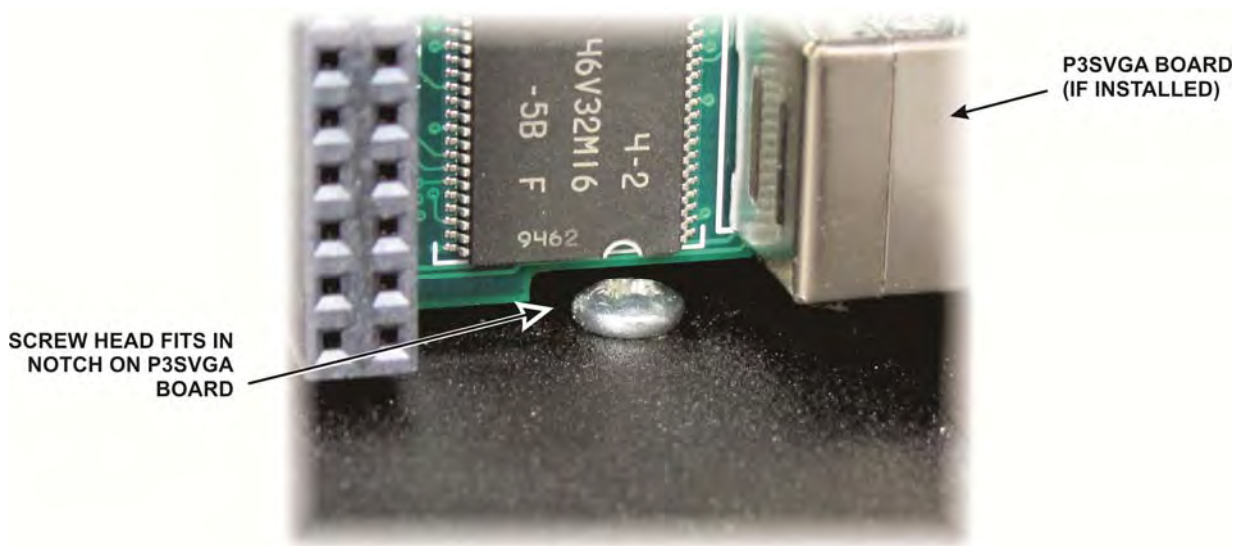

Figure 18. Clearance Notch in P3SVGA board.
- Mount the rear panel assembly to the end of the bottom cover that has the two round feet using a 3/16" (4.8 mm) pan head screw into each 2D fastener. If the optional P3SVGA board is installed, note that a notch in the bottom of the board clears the screw for the rear foot (see Figure 18).